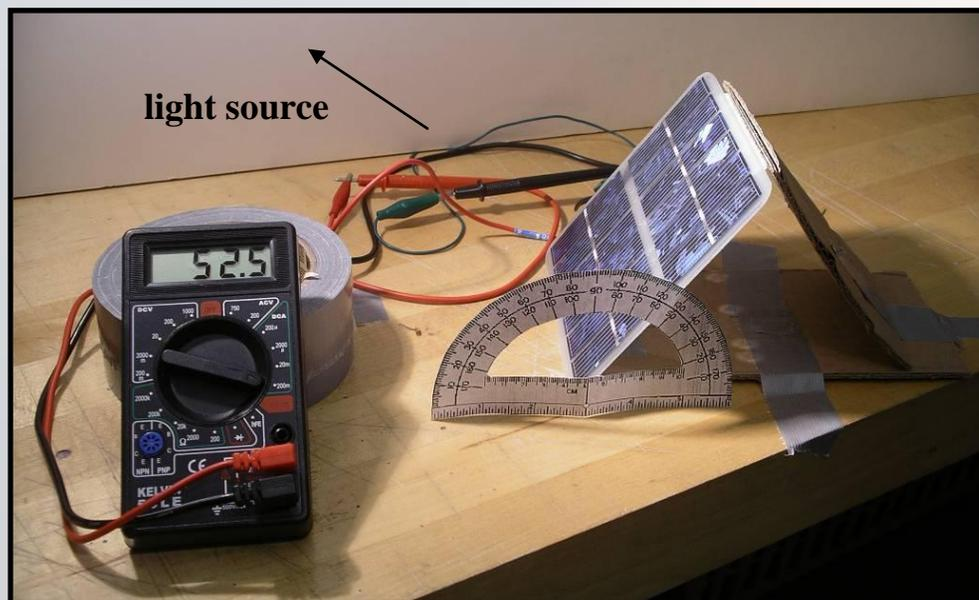

Figure 1. Solar angles experimental set-up.
2. To support the solar panel during the experiments, tape two pieces of cardboard that are roughly the size of the panel to opposite sides of the solar panel to create an adjustable support triangle, as shown in the experimental set-up in Figure 1.